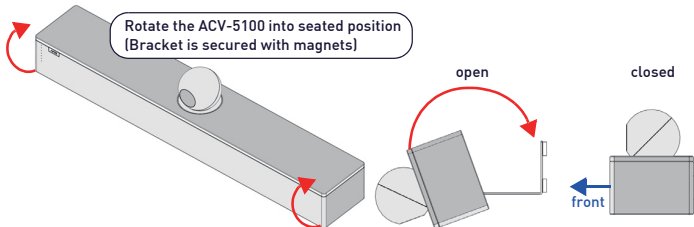

FIG. 7 ROTATING THE ACV-5100 INTO ITS SEATED POSITION
- Remove the Bracket from the ACV-5100 (see FIG. 7 on page 9).
- Rotate the ACV-5100 into seated position. The Bracket is secured with magnets (FIG. 7).
After connecting all cables, close the Bracket to return the ACV-5100 to its seated position. The Bracket is secured via internal magnets (FIG. 7):